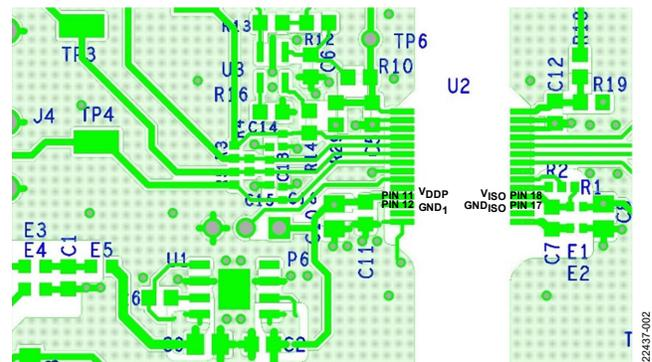

Figure 3. Layout Notes for EVAL-ADUM6421ARNZ/EVAL-ADUM6421AURNZ
- Ensure that  $V_{ISO}$  (Pin 18) is connected through the E2 ferrite bead before connecting to the  $V_{ISO}$  load, as shown in Figure 3.
- Ensure that there is a keep out area in the PCB layout around E1 and E2, as shown in Figure 3.